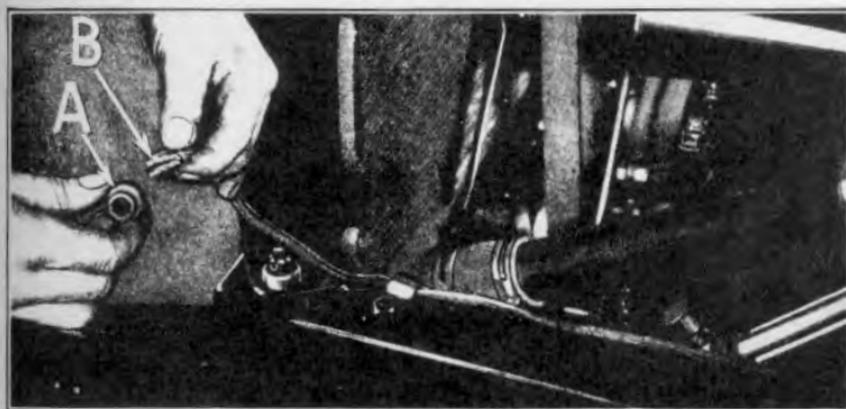

Fig. 111
- (a) Insert headlamp wire bushing (See "A" Fig. 111) over ends of headlamp wires "B" slipping bushing down on loom.